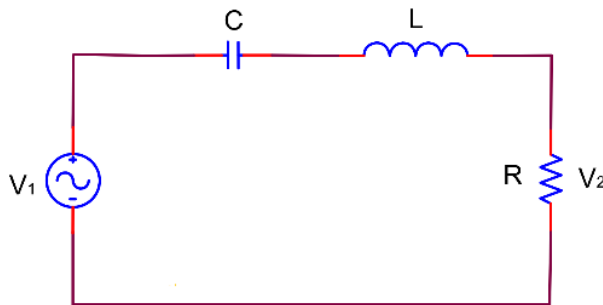

Figure 15.3
- Derive an expression for $H(j\omega) = \frac{v_2(j\omega)}{v_1(j\omega)}$ for the circuit of Figure 15.3.